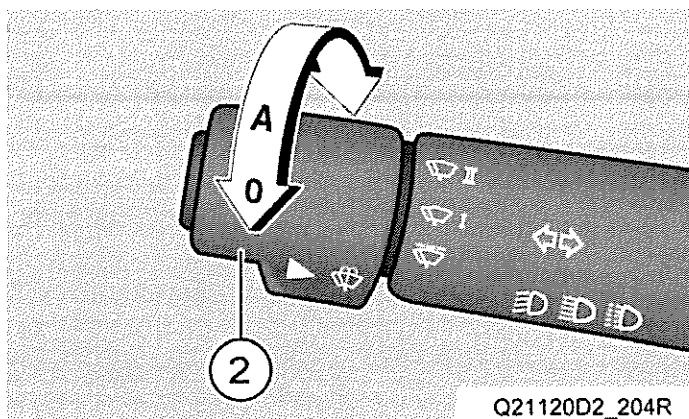

Fig 41 Operating the intermittent wipe
92 Refer to Fig 41. To switch on the intermittent wipe, turn the handle (2) of the steering column stalk to position A.